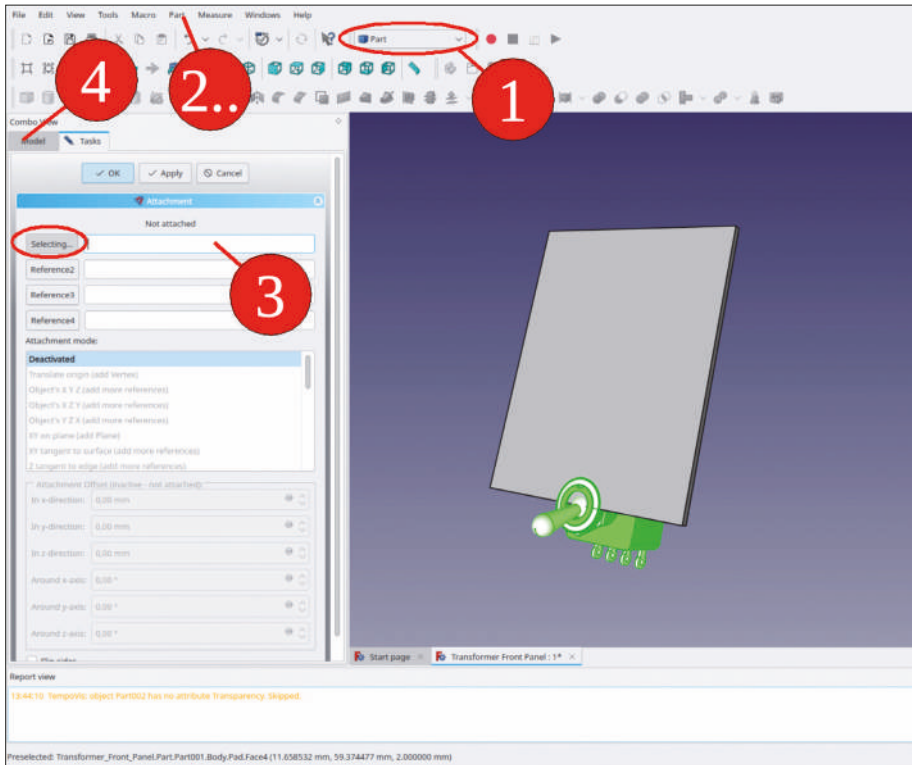
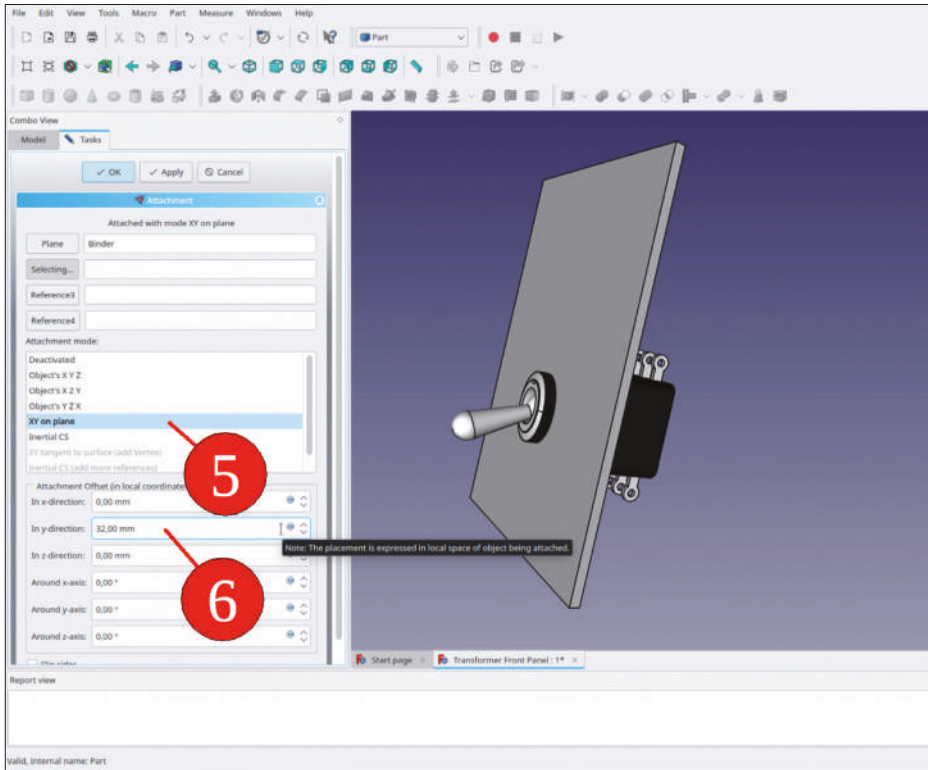

Figure 9-14
Figure 9-15
4. In the task window, click into the entry field next to the button for Reference 1, which is displayed in dark gray, and of which the label reads 'Selecting...' (Figure 9-14).
5. Switch to the 'Model' tab (Figure 9-14, step 4) and, in the tree view, click the SubShapeBinder. Switch back to the 'Tasks' tab. For the attachment mode, select 'XY on plane', and set the attachment offset Y to 32 mm (Figure 9-15). Close the task window.